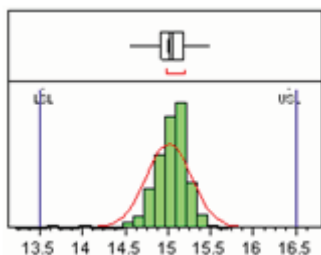
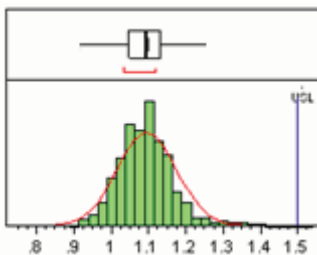

Figure 1. Gain @ 2.4 GHz , Vd 3V; Vbypass 1.8 V, LSL=13.5, Nominal=15.0, USL=16.5
Figure 2. NF @ 2.4 GHz , Vd 3V; Vbypass 1.8 V, Nominal=1.1, USL=1.5
5. Measurements at 2.4GHz obtained using demo board described in Figure 1, with component values on Figure 2 (2.3 – 2.4 GHz)